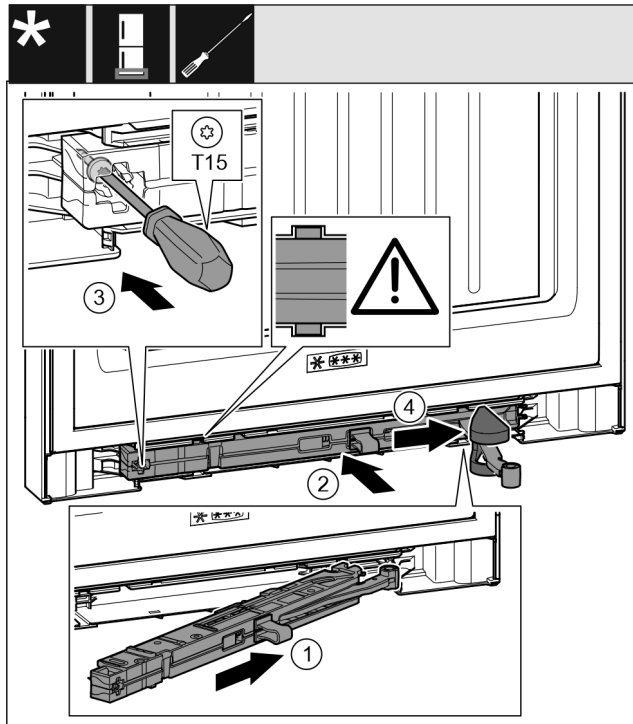

Fig. 46
- ▶ Slide the soft stop unit on the bearing bracket side at an angle into the slot as far as it will go. Fig. 46 (1)
- ▶ Slide the soft stop unit fully into the slot. Fig. 46 (2)
- ▶ Tighten the screw with a T15 screwdriver. Fig. 46 (3)
- ▶ Push the cover over the hinge. Fig. 46 (4)